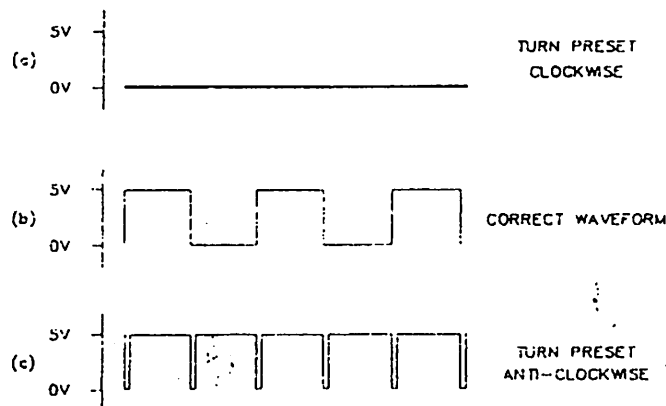

figure 3
15.02 Monitor test point A on Convertor Board using an oscilloscope with time-base set to 20uS per div. Adjust preset P2 for a display like figure 3(b). This should be done with the D.S.P Board in its normal position.